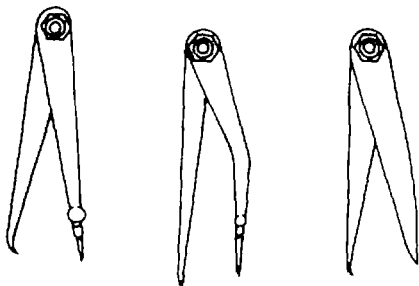

Figure 3-27. Hermaphrodite Calipers
(4) *Hermaphrodite calipers.* The hermaphrodite calipers have one straight leg ending in a sharp point, as shown in figure 3-27. On some models this point is removable. This leg is usually bowlegged. This caliper is used for finding shaft centers or locating shoulders.